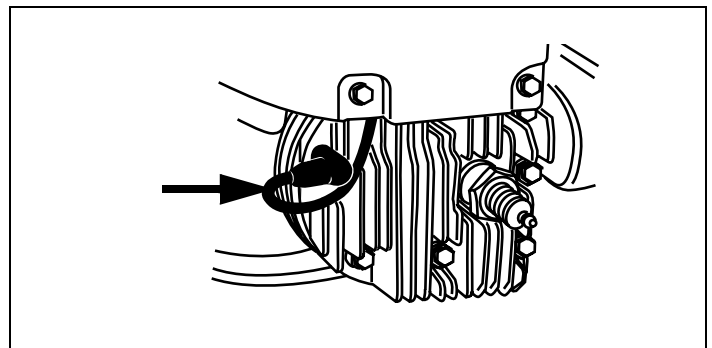

Figure 36. Spark Plug Grounding Post
- Attach the spark plug wire to the grounding post, if provided. See Figure 36.
10. Carefully disconnect spark plug wire from grounding post, if provided. See Figure 36 on page 18. Afterward, continue reading instructions below.